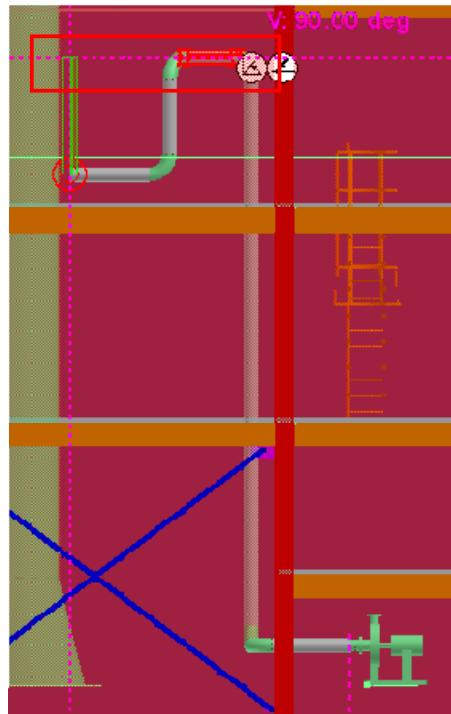

Figure 24: Using The Pipe Straight Feature to Find the Intersection Point
34. Now, you will route the next segment of the pipe upwards. Use the **Pipe Straight Feature** highlighted in Figure 24 to find the intersection point.